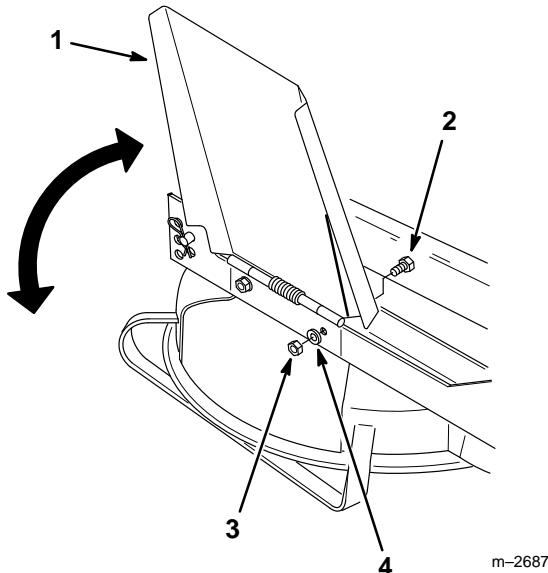

Figure 28
1. Locknut (2)	3. Hex Head Bolt (2)
2. Flat Washer (2)	4. Discharge Chute Cover
4. Install the discharge deflector onto the right side of the deck using the hex head bolts, flat washers and locknuts and removed in step 3 above (Fig. 28).